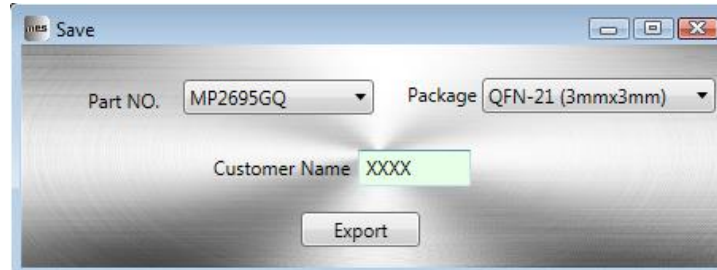

Figure 10: Export Window
5. Ensure that all parameters are populated before selecting “Export.” Export the configuration by clicking “Export” in the toolbar (see Figure 10).